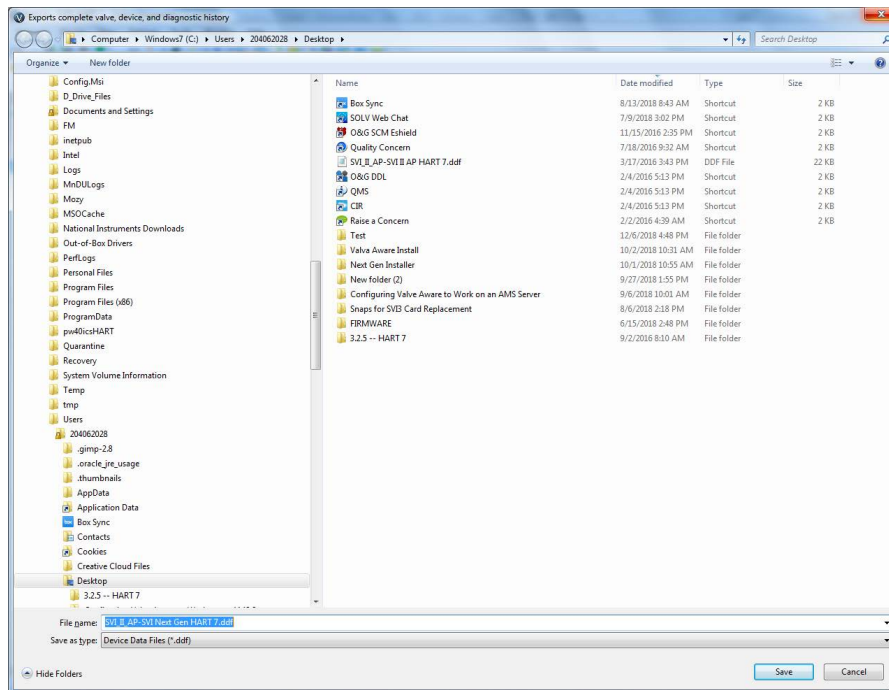

Figure 41 Export Device Data
1. Select in the device in topology tree, right-click and select **Export Device Data** and Figure 41 appears.